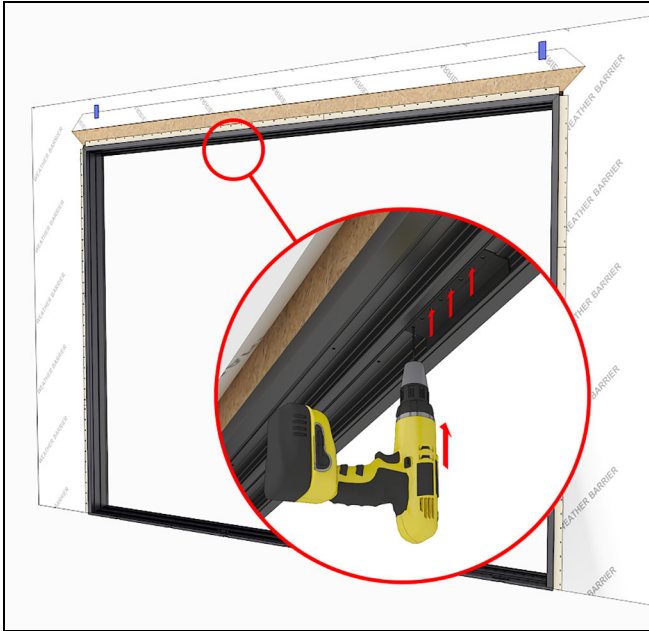

Figure 94
2. Pre-drill a 3/16" hole through the head jamb using the bracket as a template. Pre-drill at each outside hole of the bracket, and at least once more in the middle of the bracket. See Figure 94.